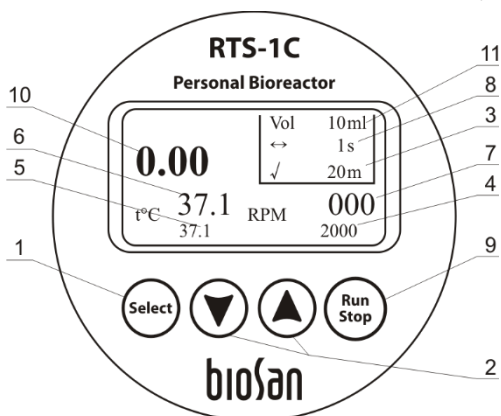
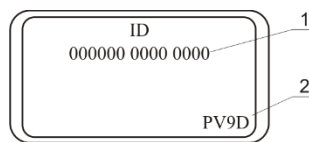

Figure 2. Control panel
Figure 3. ID and hardware version
- 5.1. **Checking hardware version.** To check the hardware version, press ▲ and ▼ keys (fig. 2/2) simultaneously. Display will show a new screen with a unique fourteen-digit unit ID (fig. 3/1) and the hardware version (fig. 3/2). Please refer to the number in the version for further calibration. Display will change back to the previous screen after 4 seconds.
- Set the volume parameter of the distilled water on the display (fig. 2/11);
- Press **Run Stop** key (fig. 2/9) (the device will start the OD measurement cycle by accelerating to 2000 rpm);
6.5.1. Press the **Select** key (fig. 2/1) to choose a parameter that you want to change (the active parameter is blinking).
6.5.2. Use ▲ and ▼ keys (fig. 2/2) to set the necessary value (if the key is pressed for more than 2 seconds the parameter should change quicker).
6.5.3. It is possible to set time between optical density measurements (fig. 2/3), spinning speed (fig. 2/4), temperature (fig. 2/5), time between Reverse Spins (fig. 2/8), operating volume (fig. 2/11). Actual values of the temperature and speed are displayed on the display (fig. 2/6 and fig. 2/7).
6.5.4. Press the **Run Stop** key (fig. 2/9) to start and stop operation.
6.5.5. Press the **Run Stop** key (fig. 2/9) to stop the operation.
Caution! Operation stop will not stop the heating process. To stop heating process set temperature has to be decreased manually until “off” indication appears (fig. 2/5).